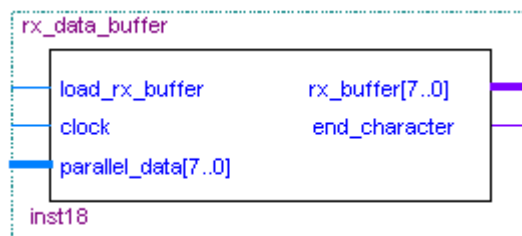

Figure 2 Receiver Data Buffer
1. Create an 8-bit register (i.e. a parallel flip-flop) in VHDL, as shown in Figure 2, with the following features: